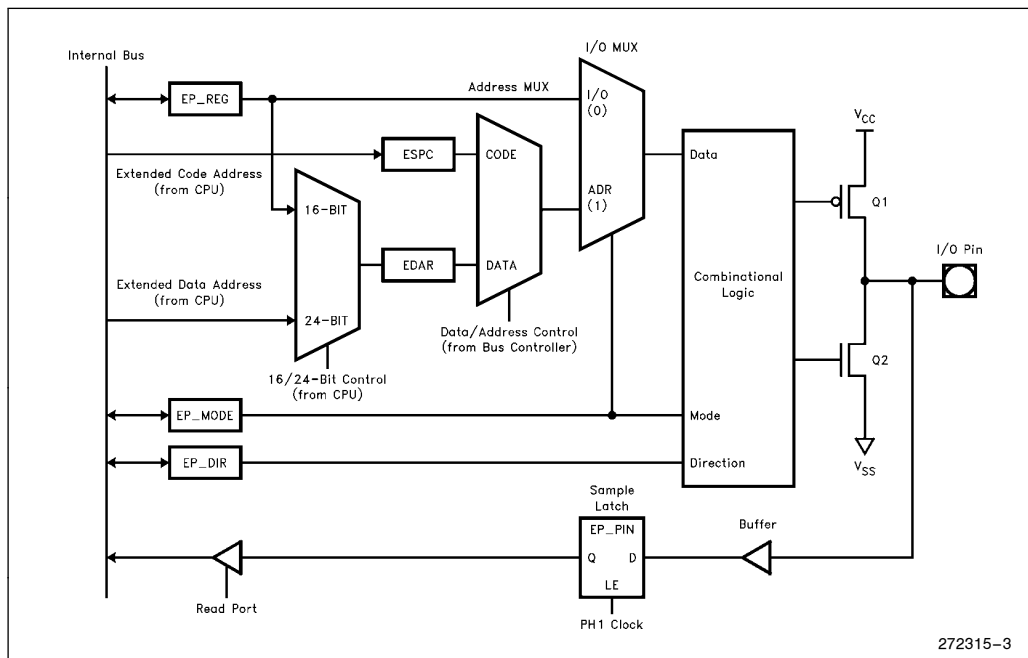

Figure 4-1. EPORF Block Diagram
A **block diagram of the EPORF** is shown in Figure 4-1. The extended address either accesses data using the contents of the extended data address register (EDAR) or executes code using the address in the extended slave program counter (ESPC). If the EP_MODE and EP_DIR registers are configured for the addressing function and code is to be executed or data retrieved from an extended address, this extended address will be placed onto the EPORF pins. If a 16-bit instruction is executed and the device is in 24-bit mode, the contents of the EP_REG will determine the highest byte of the extended address. Therefore, the contents of the EP_REG should contain the correct extended address for the registers in the 16-bit instruction. If the device is in 16-bit mode and the port is configured for the addressing function, the EPORF pins will default to 0Fh. If the EP_MODE and the EP_DIR registers are configured for the I/O function, the contents of the EP_REG register is placed on the EPORF pins and the contents of the EP_PIN register is updated to the current value on the pins.
Understanding how the EPORT is loaded is important. The EPORT block diagram is shown in Figure 4-1. First, the extended data address register (EDAR) is 8 bits wide and concatenated with the 16-bit data address register (DAR) to make a 24-bit data address register. Notice in the EPORT block diagram that the EDAR is loaded from either the EP_REG or the CPU data address bus. When using 16-bit instructions (LD, ST), EP_REG is the source for the EDAR. When using the extended addressing instructions (ELD, EST) the CPU data address bus is the source. When using the 16-bit addressing instructions, the 1 Mbyte of memory can be viewed as sixteen 64 Kbyte memory sections. When it is desired to use the 16-bit addressing instructions on a particular page, use the extended store instruction to initialize EP_REG to that page (see Code 5-1).
When MODE16 is set to a 1 the extended slave program counter (ESPC) is forced to FFh (see the EPORT block diagram Figure 4-1). The extended slave program counter is also 8 bits wide and is concatenated with the 16-bit program counter (PC) to create a 24-bit wide program counter. The extended program counter can be thought of as holding the page location value of the currently executing code. Hence, code fetches are limited to the 64 Kbyte region in page FFh when MODE16 is set to a 1. **In this mode extended branching instructions (EBR, EJMP, ECALL) do not work and must not be used.**